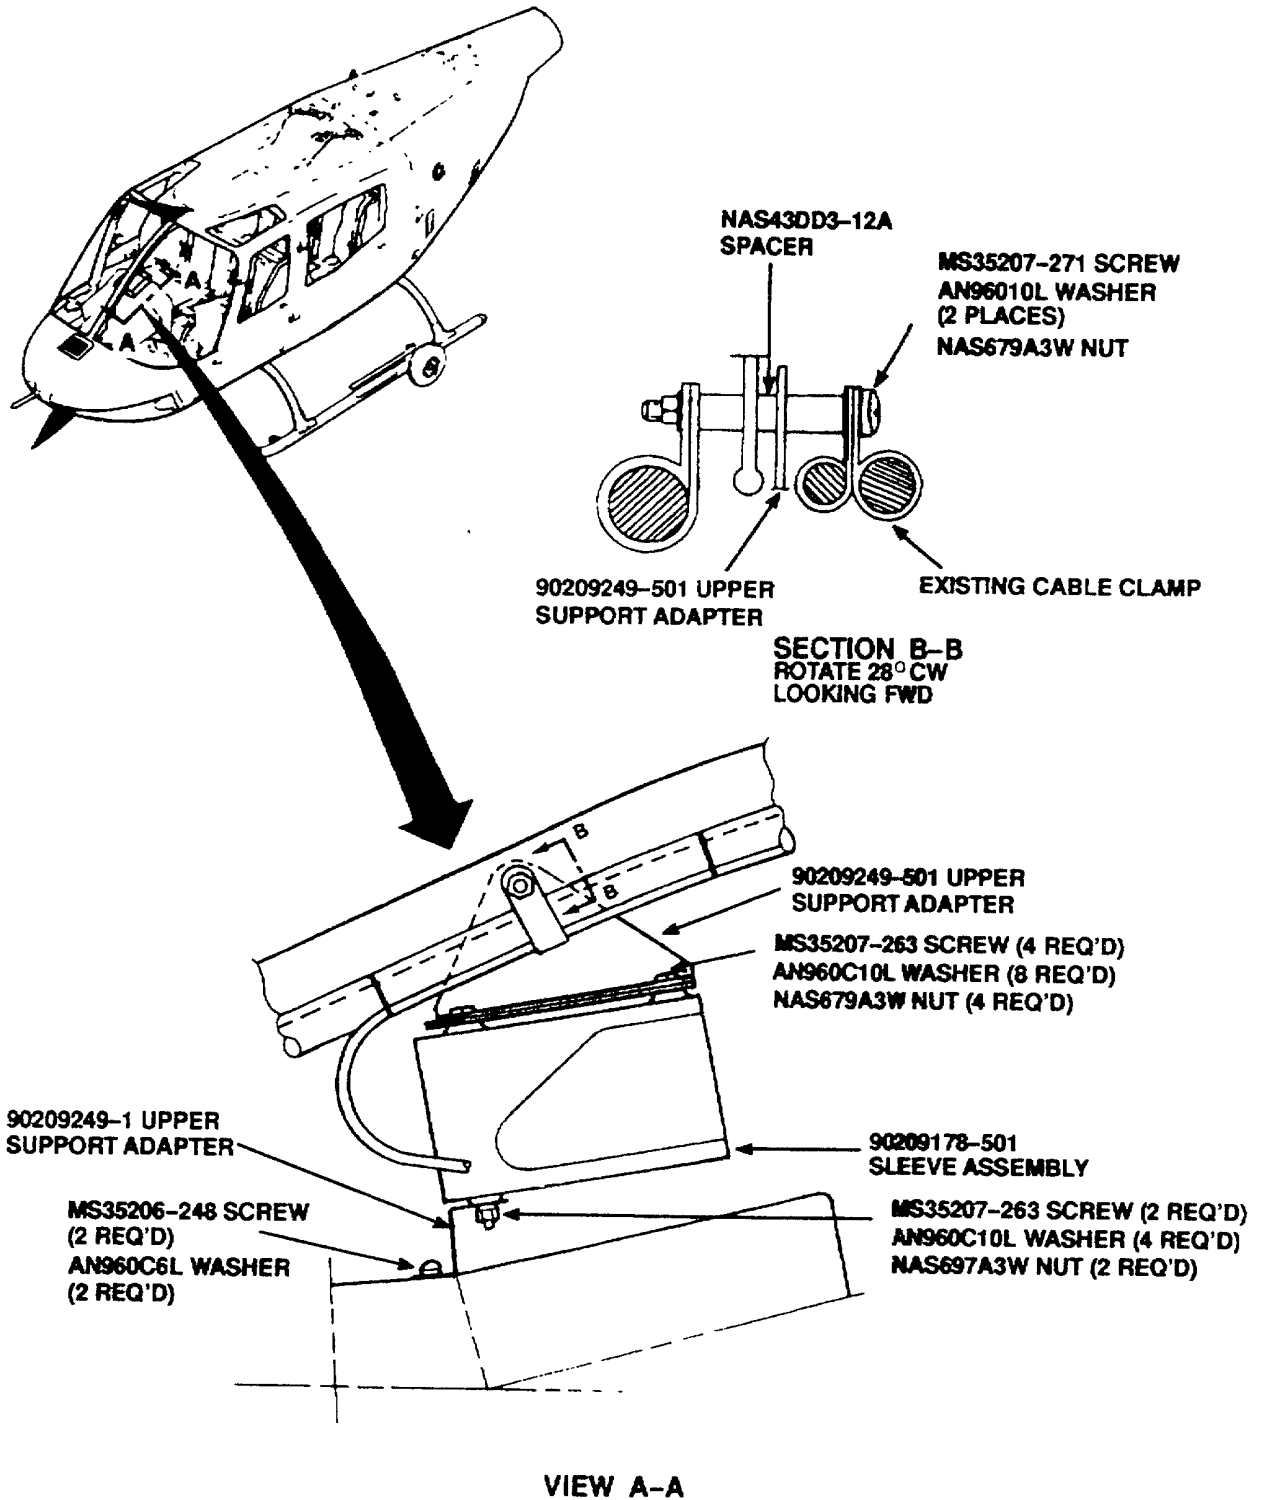

Figure 2. GPS Trimpack Receiver Mount Installation.
- g. Remove GPS Trimpack upper support adapter (PIN 90209249-501) (figure 2).
- h. Remove GPS Trimpack sleeve assembly (PIN 90209178501) (figure 2).
- i. Remove GPS Trimpack lower support adapter (PIN 90209249-1) (figure 2).
- k. Install clamp In windshield center post with shorter screw (Figure 2, Section B-B).